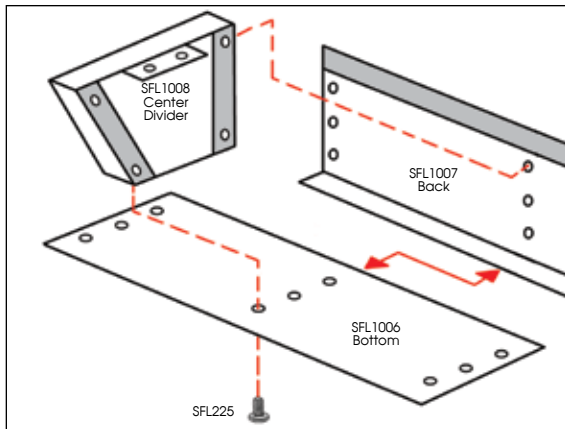

FIGURE 2
2. Assemble center divider assembly to bottom with three 6-32 x 1/4" pan head screws (Fig. 2).